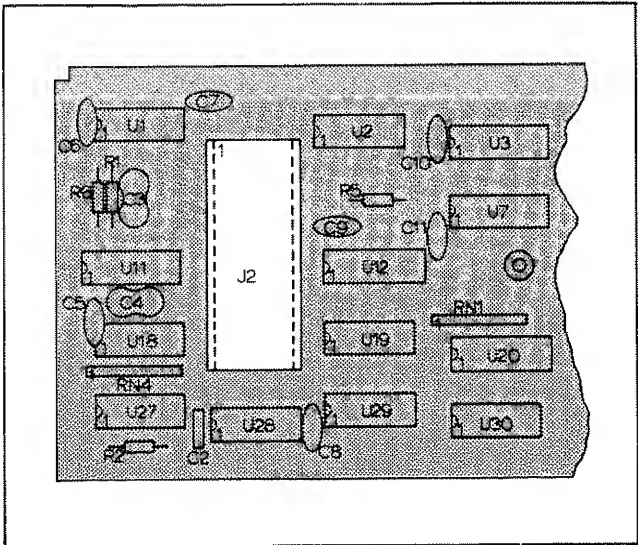

Figure 607-1. Personality Card Location
device. Table 607-1 lists pins and definitions for the personality card. The personality card plugs into J2, as seen in Figure 607-1. Available personality cards are listed in Table 607-2.
4. Plug the personality card into J2 on the Parallel Interface PCB. The location of J2 is illustrated in Figure 607-1.